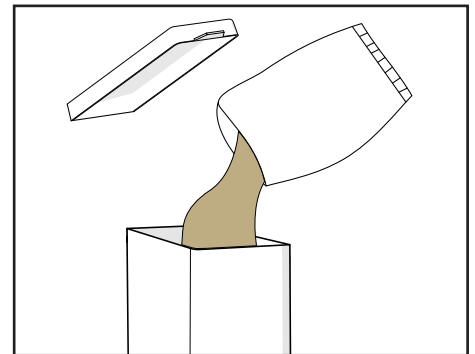

Figure 66. Fill canister
4. Fill the canisters to **maximum three quarters** of the capacity (see Figure 66).